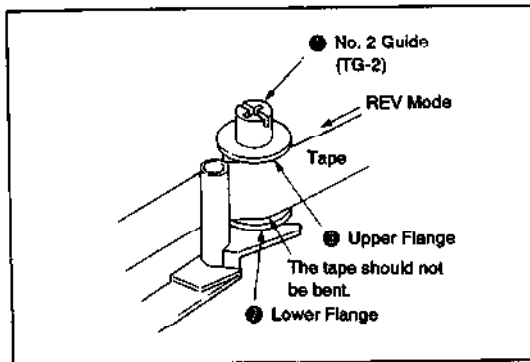

Fig. 4-8.
(See Figs. 4-8. and 4-9.)
- 2) Confirm that the tape is not bent at the lower flange ② of the No. 2 guide (TG-2) ① (See Fig. 4-8). If it is, turn the upper flange ③ of the No. 2 guide (TG-2) ④ clockwise with a screwdriver, lowering it until the tape is straightened.